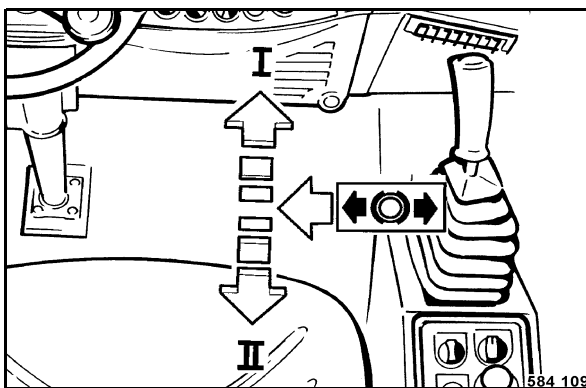

Fig. 95
- Shift the travel lever (Fig. 95) fully to position „I“.